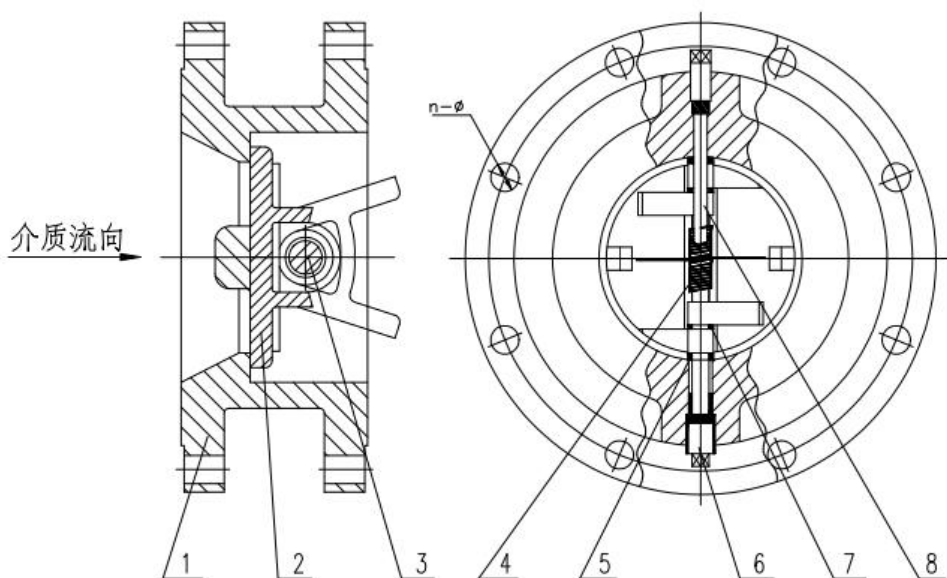

Figure 1 Disk Check Valve Structure
- 3.1 The basic structure of the disk check valve is shown in Figure 1.